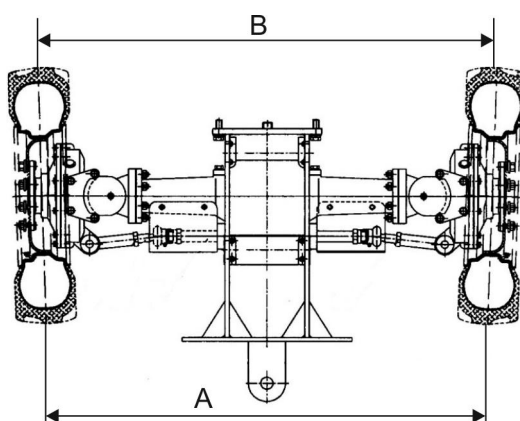

Figure 4.3. Adjusting the toe of the front wheels
4. Using a tape measure, measure the distance "B" between the applied marks with an accuracy of 1 mm as shown in Fig. 4.3.